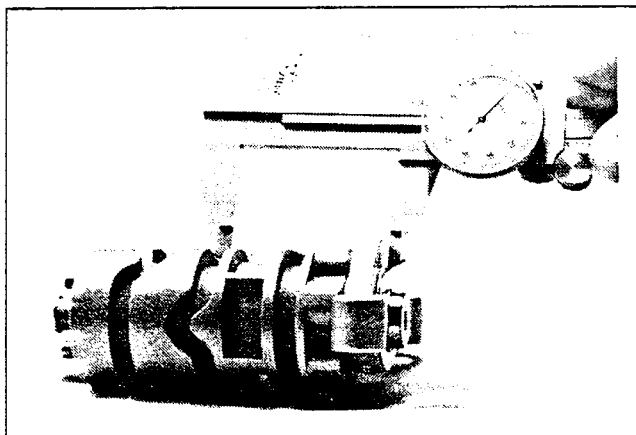
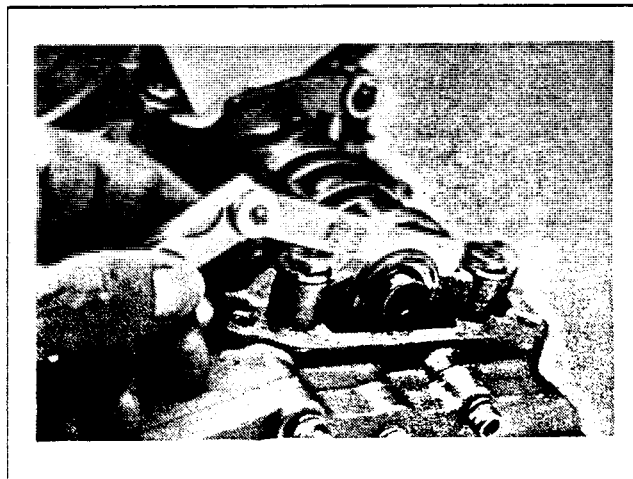

Figure 4. Measuring Shift Drum Position
Figure 5. Checking End Play
7. See Figure 4. Rotate the drum to its neutral position. With the drum snug against the thrust washer of right support block measure from the outside machined surface of the exposed shoulder at the outer perimeter of the thrust washer to the nearest edge of the center groove. This measurement should be 1.992-2.002 in. Cam end play Figure 5 should not exceed 0.009 in. If measurements are not as specified in this bulletin, consult your service manual.